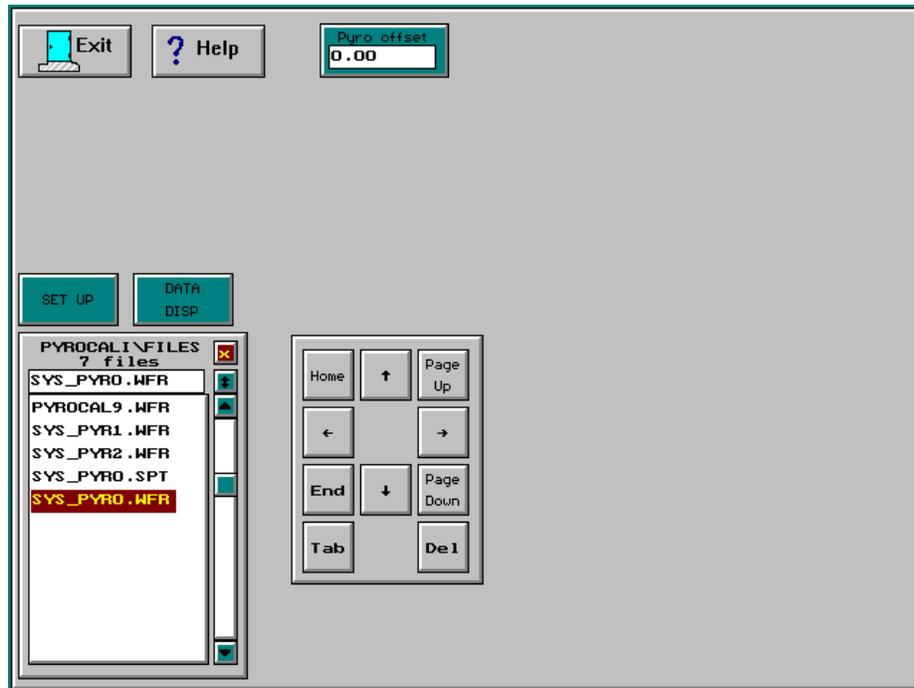

Figure 10-14: Pyrometer Calibration Menu
- Step 1. From the Calibration menu screen, click on the Pyrometer Calibration button. This will display the Pyrometer Calibration List screen, figure 10-14.